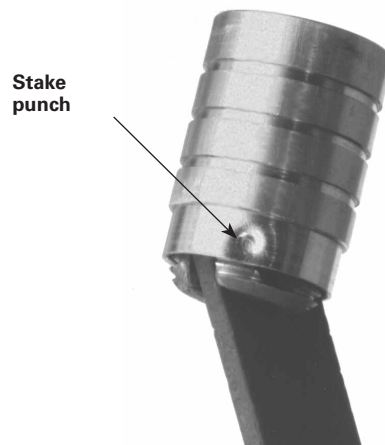

Figure 46. Staking pump piston shell
3. After all adjustments are completed, stake the pump piston shell. (Figure 46)
3. Stake the piston shell to prevent movement after the adjustment is correct. (See Figure 46.)